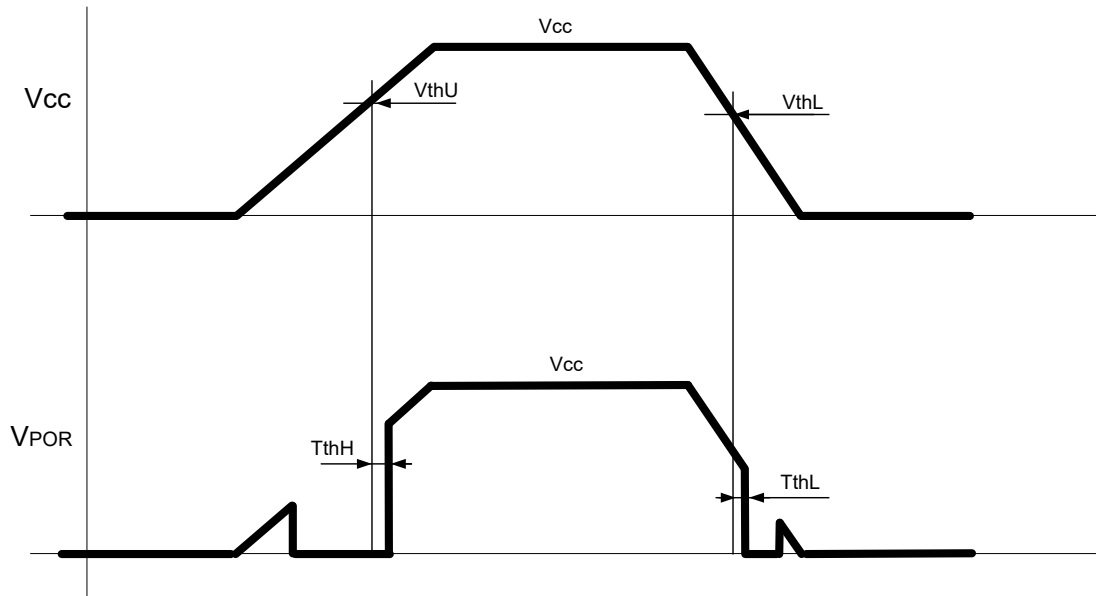

Figure 2: PoR output signal
- Added figure 2: PoR output signal